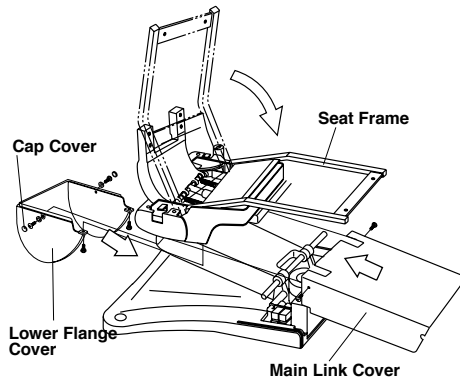

Fig.6-15 Fixing Main Link Cover and Lower Flange Cover
- A. Return the seat frame to the original position. (Fig.6-15)
- B. Fix the main link cover. (Fig.6-15)
- C. Fix the lower flange cover and fix the cap covers on the screw heads. (Fig.6-15)